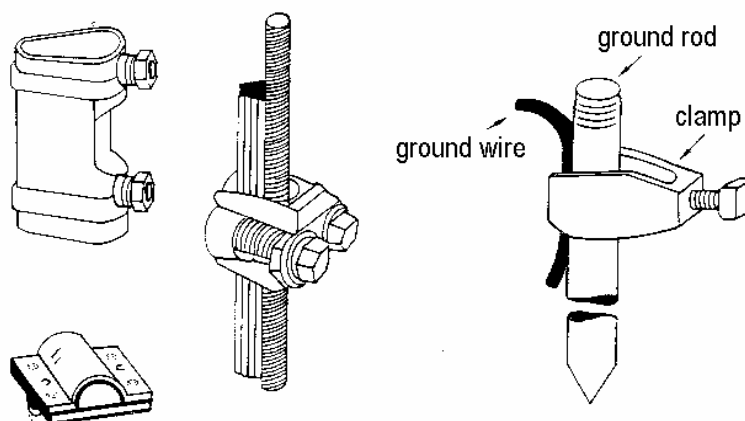

Figure 3 - Examples of suitable clamping devices
1) Clamp or bolt the connections tightly to prevent loosening over time. Use a lockwasher where nuts or bolts are used. Do not over-tighten the connection to the point where the conductor strands are damaged. When using a ground rod clamp (see figure 3, example at right), always have the clamp body compress the grounding electrode conductor against the rod. Using the clamp screw to compress the grounding electrode conductor against the ground rod will result in a bad connection.